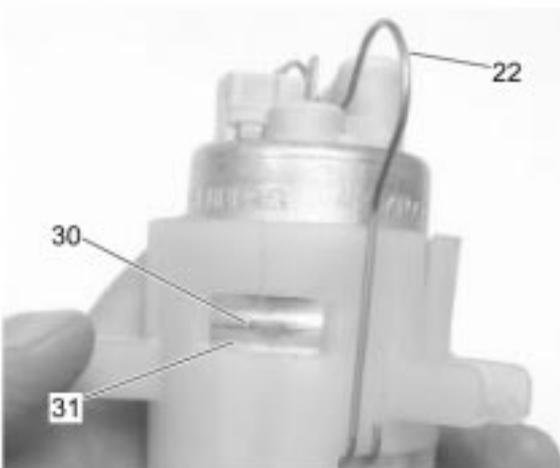

Fig. 12
- Secure the pump to the sleeve with the stay (22) (see → fig. 12).